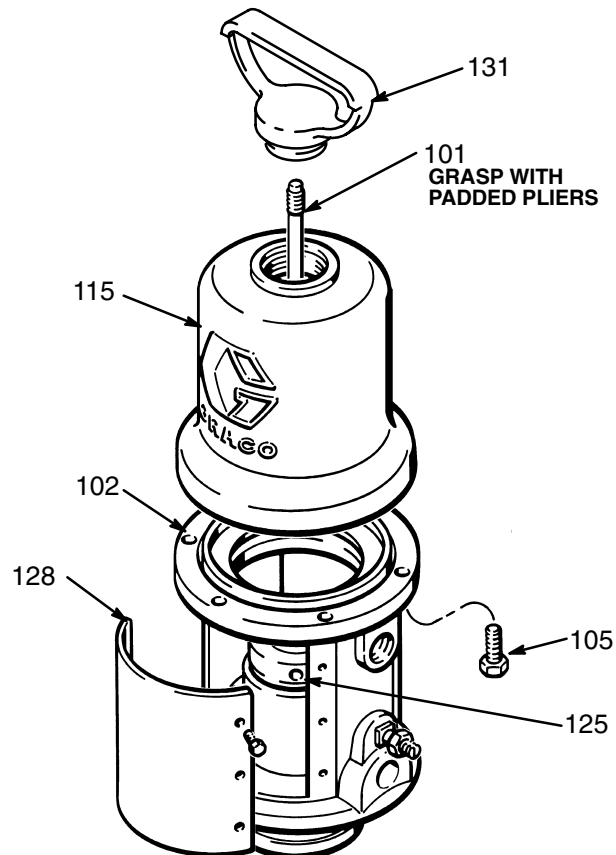

Fig 3
2. If the air transfer valves do not reseat, screw the cap nut (131) out of the cylinder (115), pull up on the trip rod (101) and screw the cap nut back into the cylinder. See Fig 3.
3. Remove the warning plate (128) from the motor base. See Fig 3.
4. Use a 1/4 in. punch to unscrew the bearing (125). See Fig 3.
Always keep fingers clear of the toggle assemblies (B) to avoid pinching or amputating them. See Fig. 3.
3. From below the motor base (102), push up the piston rod. Unscrew the cap nut (131) just until you can pull up the cap nut and then grasp the trip rod (101) with the special padded pliers. Remove the cap nut. See Fig 3.
4. Remove the screws (105). Carefully pull the cylinder straight up off of the piston. See Fig 3.